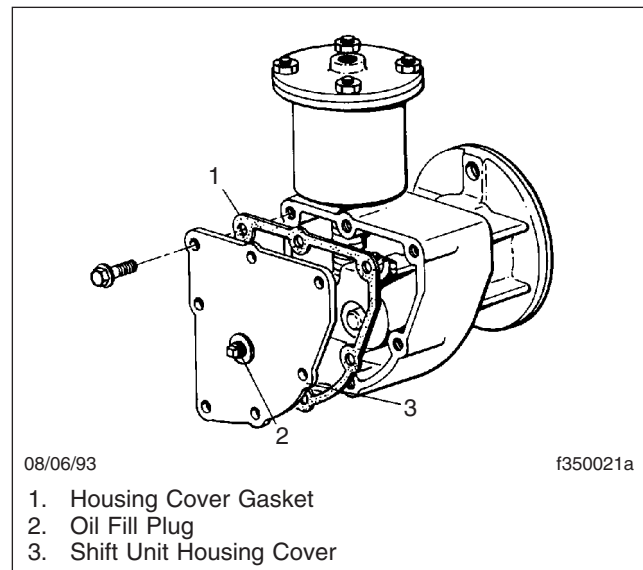

Fig. 6, Two-Speed-Axle Shift Unit
- 1. Remove the shift unit housing cover. See **Fig. 6**. Drain and discard the old lubricant. Discard the housing cover gasket.
1. Clean the shift unit oil fill plug, and the area surrounding the plug. See **Fig. 6**. Turn the fill plug counterclockwise to remove it.